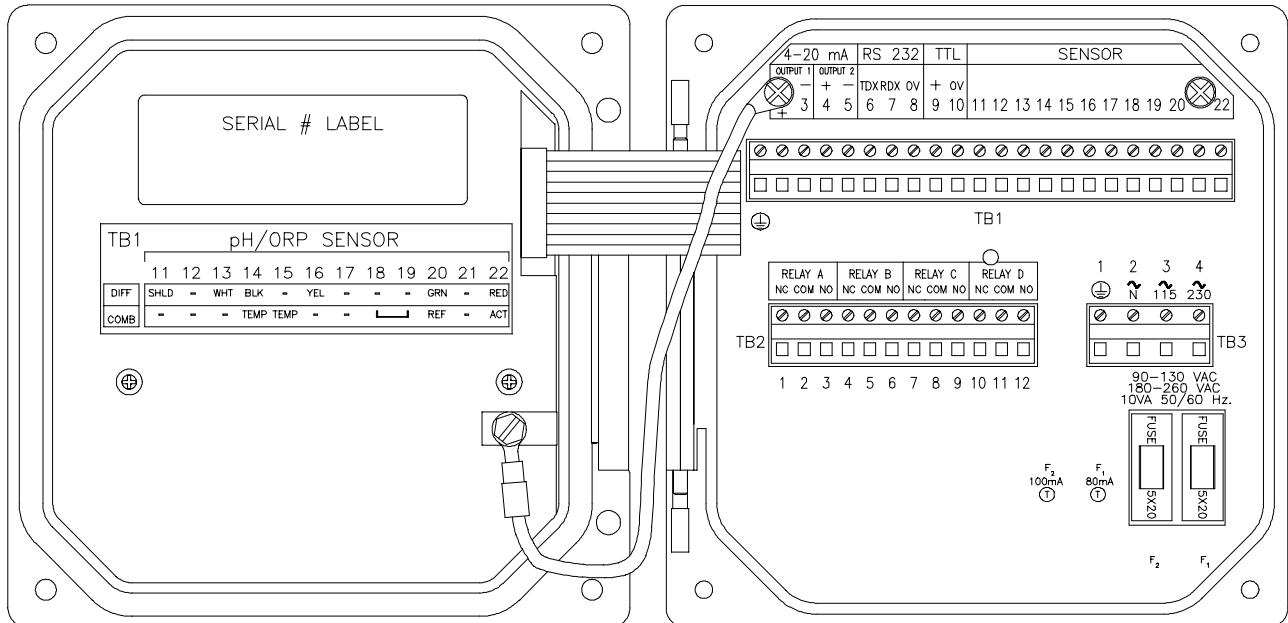

FIGURE 2-4 Terminal Designations for Analyzers with "A" or No Letter Prefix Serial Number
- The “ground symbol” Terminal 1 on TB1 (Figure 2-4) for analyzers with “A” or no letter prefix serial number.